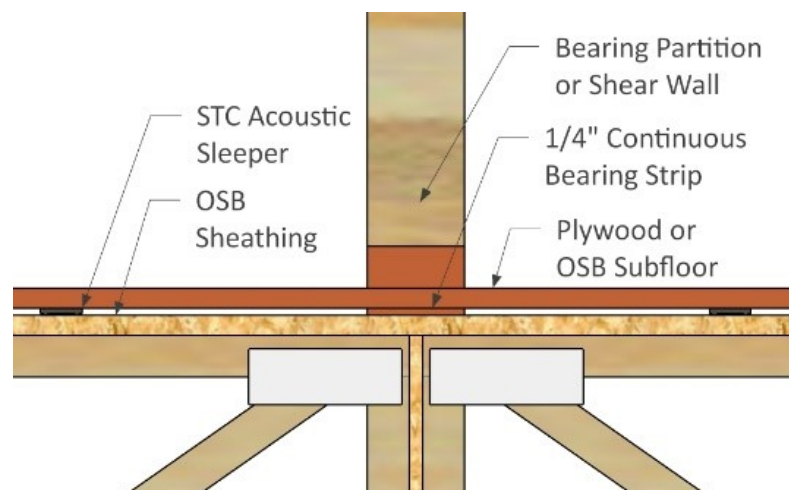

Figure 3: Typical load-bearing partition
- Fig. 3: Typical detail for load-bearing partitions, shear walls, and fire-resistance-rated walls. Place a continuous plywood or OSB bearing strip under partition.